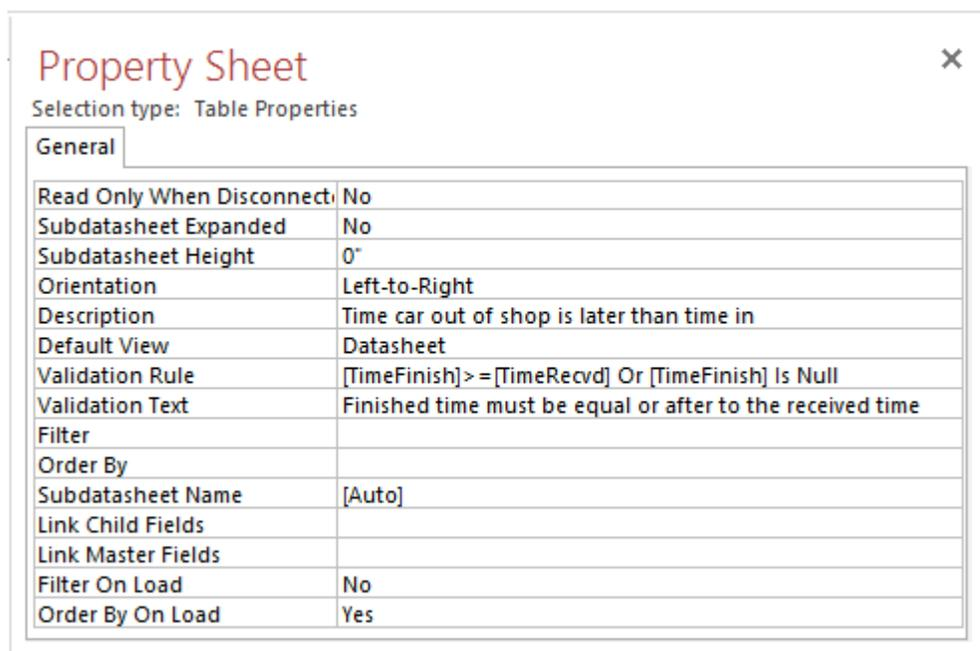

Figure 19: Table Properties Window with a Validation Rule
4. **Define Other Table Properties:** In the Table Properties window, define the *Description* and the *Validation Text* properties to match Figure 19.